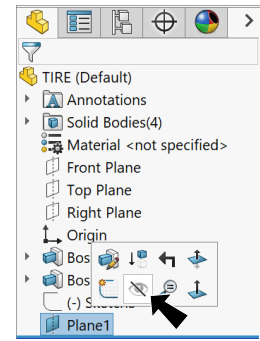

Fig. 23
Step 2. **Hide Plane1** . To hide, click **Plane1**  in the Feature Manager and **Hide**  on the context toolbar, **Fig. 23**.